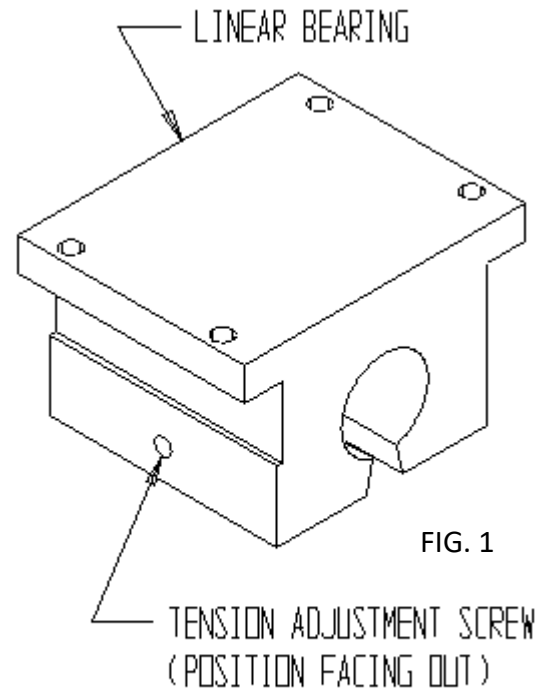

FIG. 1
**STEP 2**--Insert a new linear bearing onto the end of the carriage shaft with the tension adjustment screw pointing outward. See FIG. 1.